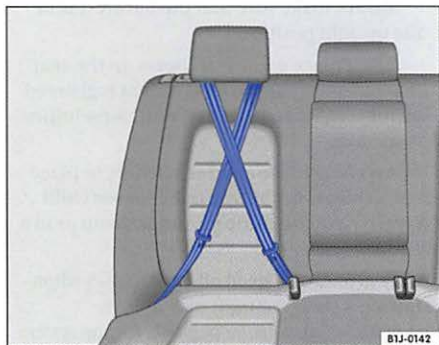

Fig. 66 Keep unused safety belts away from children in child safety seats.
You must take special precautions when installing a child restraint with the vehicle safety belt or with LATCH lower universal anchorages behind the front passenger seat or behind the driver seat. Always route the unused center seat safety belt and the unused safety belt for the seating position where the LATCH child restraint is being installed around the rear head restraint behind the child restraint to help prevent a child from playing with the unused belt and becoming entangled in it ⇒ fig. 66.
- Guide the belt webbing behind the head restraint of the adjacent seat ⇒ fig. 66. When doing so, do not engage the switchable locking feature on the safety belt! You should not hear a “clicking” sound when the safety belt is retracting.